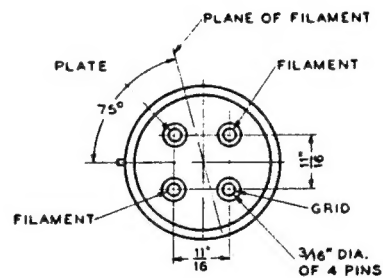

FIG. 2
**Mounting—**Large four-pin bayonet base for use in a W.E. 112A or similar socket, for either vertical or horizontal mounting. If mounted horizontally the plane of the filament, which is indicated in Figure 2, should be vertical.